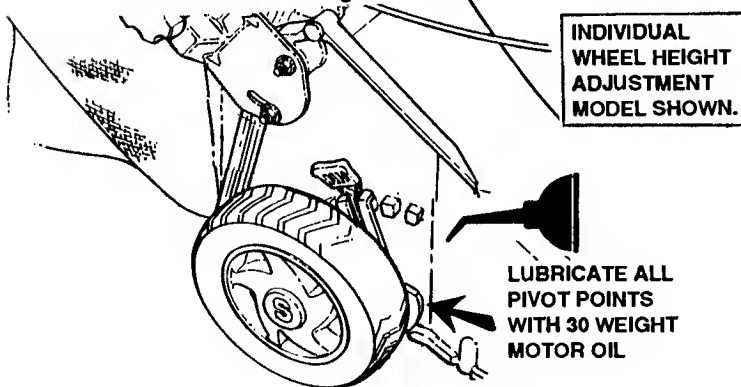

FIGURE 3.5
1. Lubricate arm pivot points between deck and arms on all wheels with 30 wt. motor oil. See Figure 3.5.